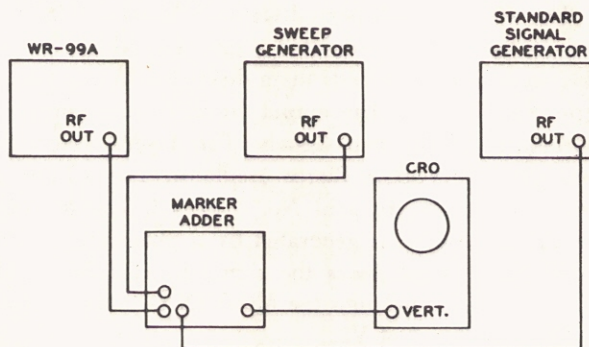

Figure 17. Test setup for vfo tracking adjustments.
1. Connect the instruments as shown in the test setup of Figure 17.